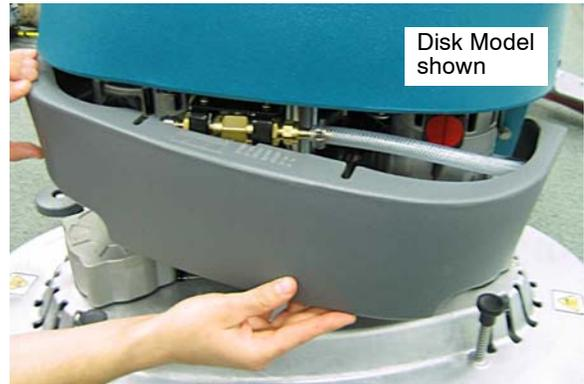

Fig. 12
12. Install scrub head shroud on machine (Figure 12).